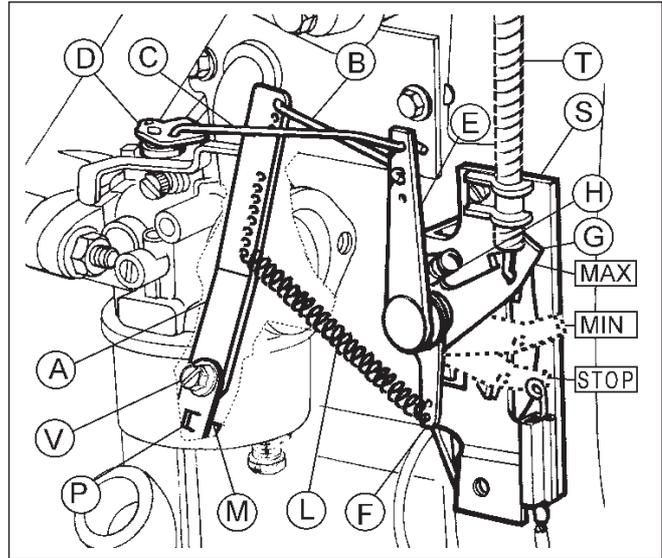

Fig. 10
#### a) DESCRIPTION AND ADJUSTMENT (Fig. 10)
#### c) SPEED ADJUSTMENT (Fig 10 & 11)
Remote control has governor plate (S) and a Bowden cable is fixed by clamp. (Fig 10)
#### e) GOVERNOR ADJUSTMENT (Fig. 10)